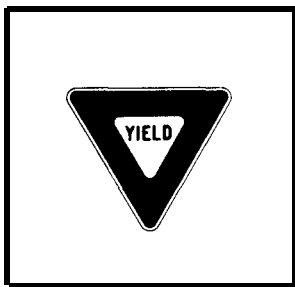

FIGURE 7
b. **Yield Signs.** Yield signs are red triangular signs with black lettering (Figure 7). At such signs, traffic must yield right-of-way to vehicles on the intersecting road; they are used to control the flow of traffic onto or across a road or highway on which the volume of traffic usually is light enough to permit entering the intersection without making a full stop. When approaching yield signs, slow down, enter the intersection cautiously, and be prepared to yield the right-of-way. If traffic is approaching on the other road, stop and wait for a clear, safe space.